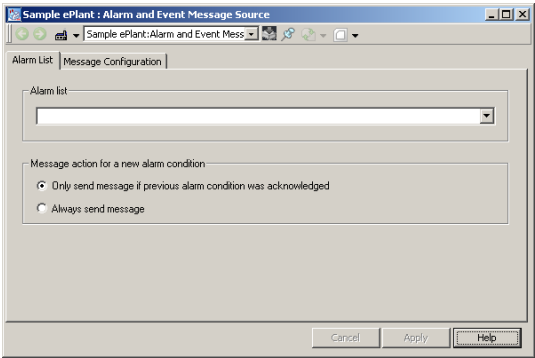

Figure 111. Alarm and Event Message Source - Alarm List Tab
4. Right-click the object and select **Alarm and Event Message Source** from the context menu that appears. This opens the Alarm and Event Message Source shown in Figure 111 with the **Alarm List** tab selected. This tab allows for selection of the Alarm and Event List to monitor.